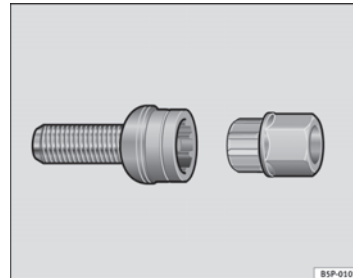

Fig. 199 Anti-theft wheel bolt
- Insert the adapter onto the wheel bolt and push it on as far as it will go => Fig. 199.